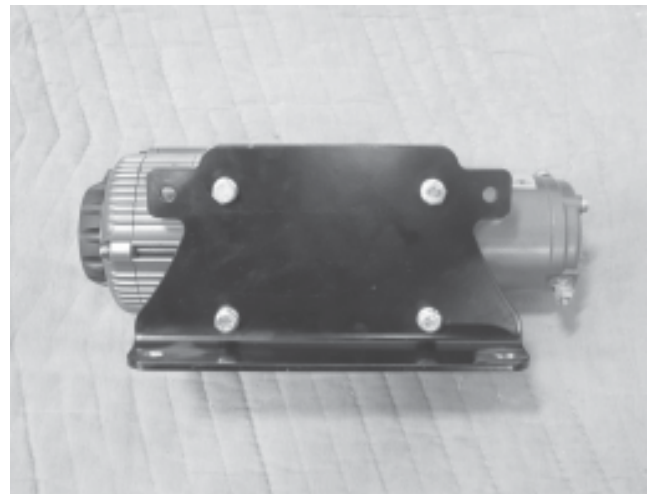

Figure 2
2. Assemble mounting plate (A1) to winch (C1) using 4, 5/16 - 18 x .75" hex head bolts (B4) and 4 5/16" lock washers (B2). Tighten to recommended torque specifications on page 2. See Figure 2.